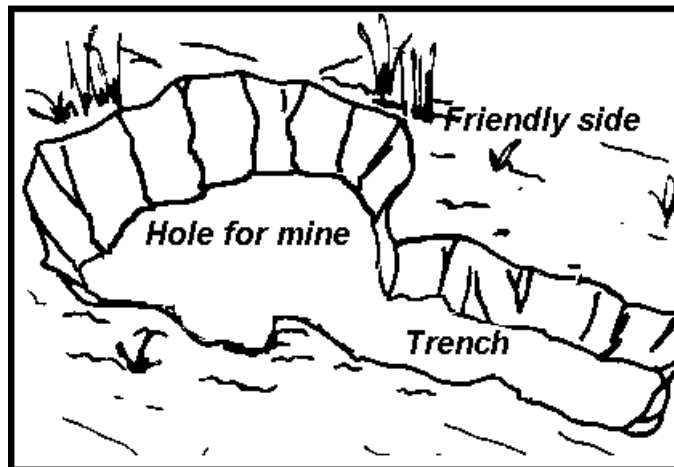

Figure 051-193-1101-1
- c. Dig a hole to fit the mine with a trench coming off the side at about a 45-degree angle towards the friendly side (Figure 051-193-1101-1).